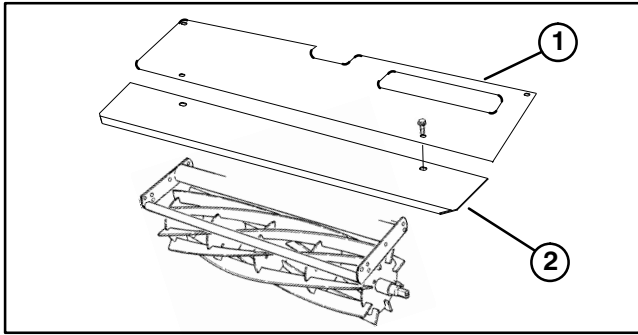

Figure 12
4. On **front** cutting units only, remove (2) flange head screws securing front of each cutting unit cover to frame (Fig. 12).
5. Insert a cutting unit shield between cover and frame, align mounting holes and secure with flange head screws previously removed (Fig. 12).